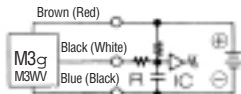

Fig. 4. Example where capacitor load is used with resistance (R). Resistance (R) should exceed the value from  $\frac{V}{0.15} = R(I)$  the formula.
- When connecting and using a capacitor load, as in-rush current occurs with the switch on, be sure to wire a protection circuit as shown in Fig. 4.